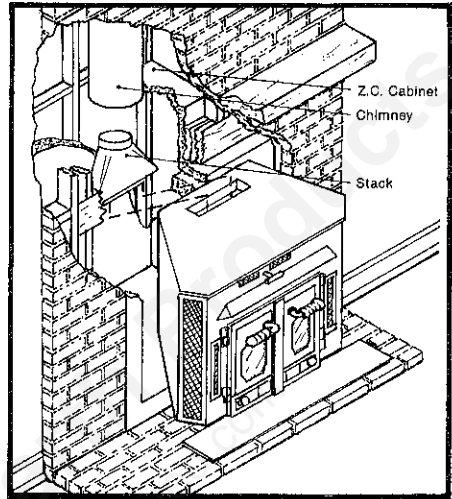

FIGURE 7 INSTALLING STACK TO CHIMNEY
- h. Turn stack positioning nuts counter-clockwise allowing stack to be lowered. Push downward and fit evenly until recessed within the stack opening (containing the damper.) Secure tightly with "T" clamps, bolts, and nuts provided. (See Figures 7 & 8). Ensure stack mates squarely, and gasket seals completely.